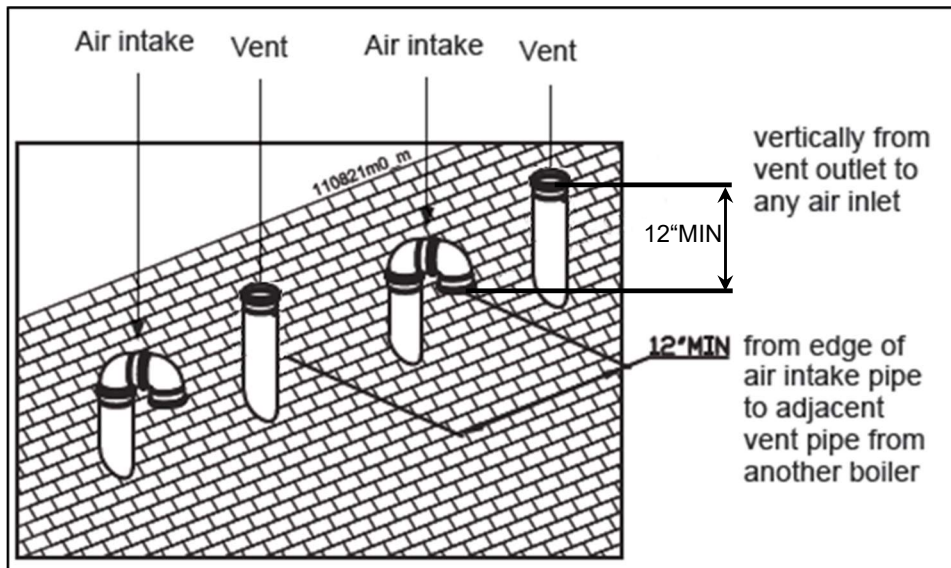

Figure 10.27
1. When terminating multiple boilers, terminate each vent/air connection as described in this manual (Figure 10.27).
2. Place roof penetrations to obtain minimum clearance of 12 inches (305 mm) between outside edge of air intake and exhaust vent of another boiler for U.S. installations (see Figure 10.27). For Canadian installations, provide clearances required by CAN/CSA B149.1 Natural gas and propane installation code.